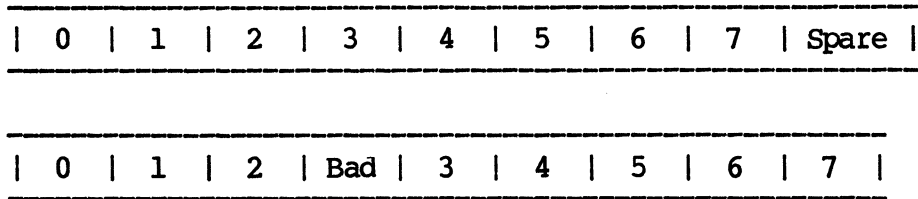

Figure 8-4. Sector Slip
Slipping a sector requires using the Read and Write Track Headers commands to mark the bad sector and slip the rest of the sectors into the next position on the disk. Figure 8-4 shows an 8-sector track before and after slipping Sector 3.
6. Move each sector header into the next location, "slipping" the sectors down the track (see Figure 8-4).